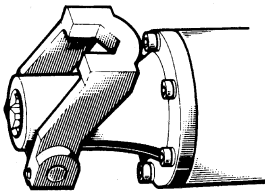

Fig. 2
- (1) With the retainer directed backward, insert the accessory shank portion into the hole on the front cover. (Fig. 2)
3. Inspecting the retainer (Fig. 2 and 3)